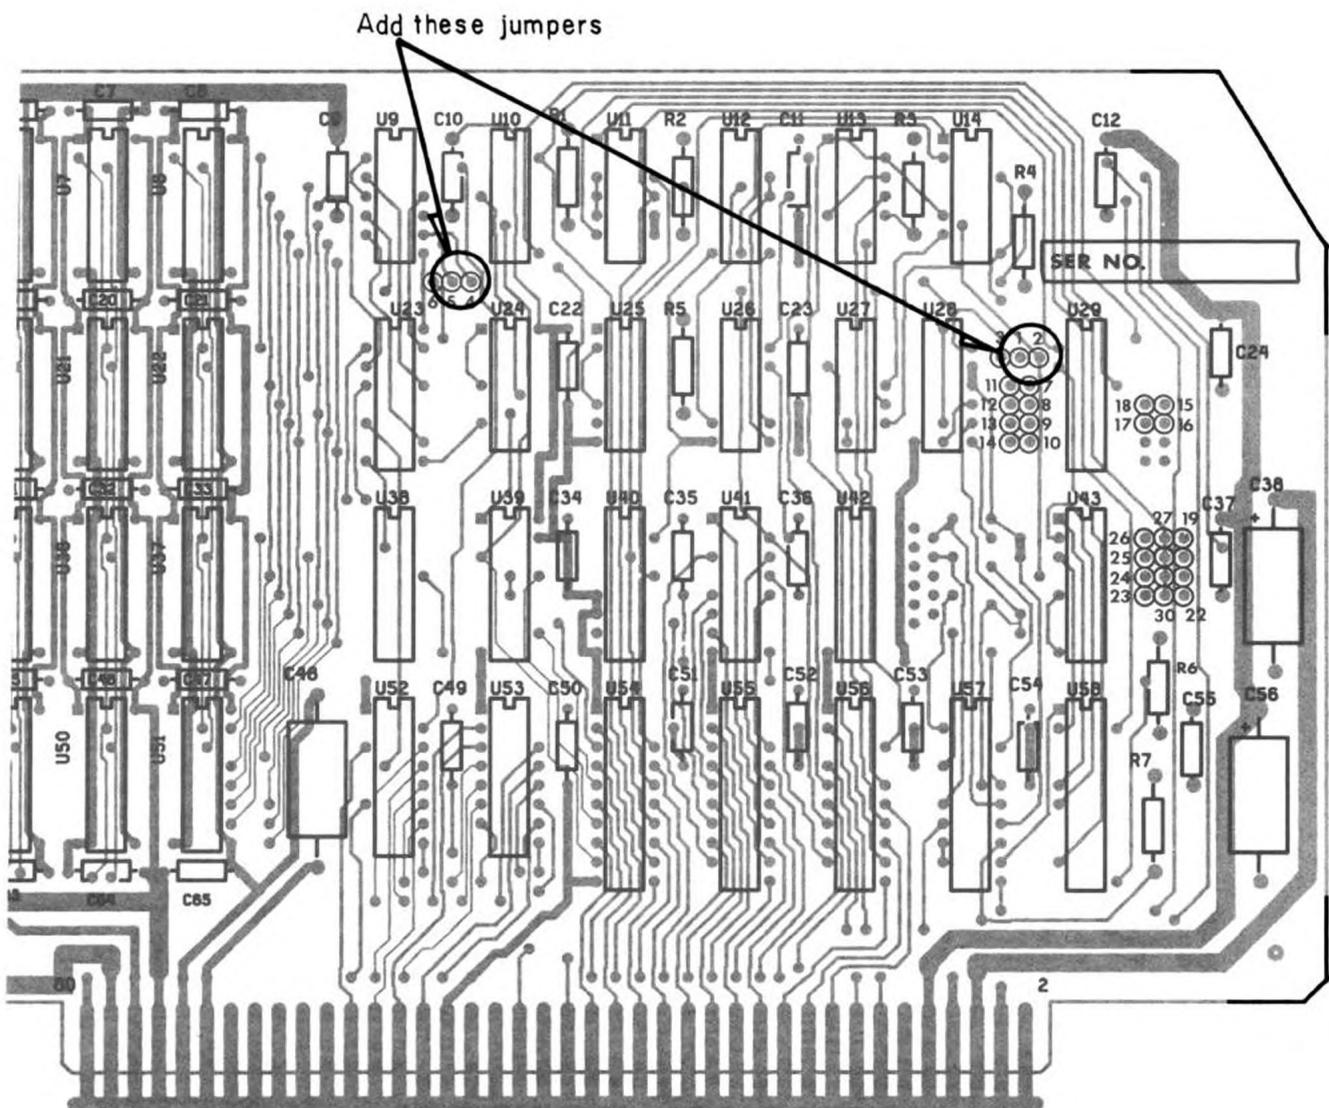
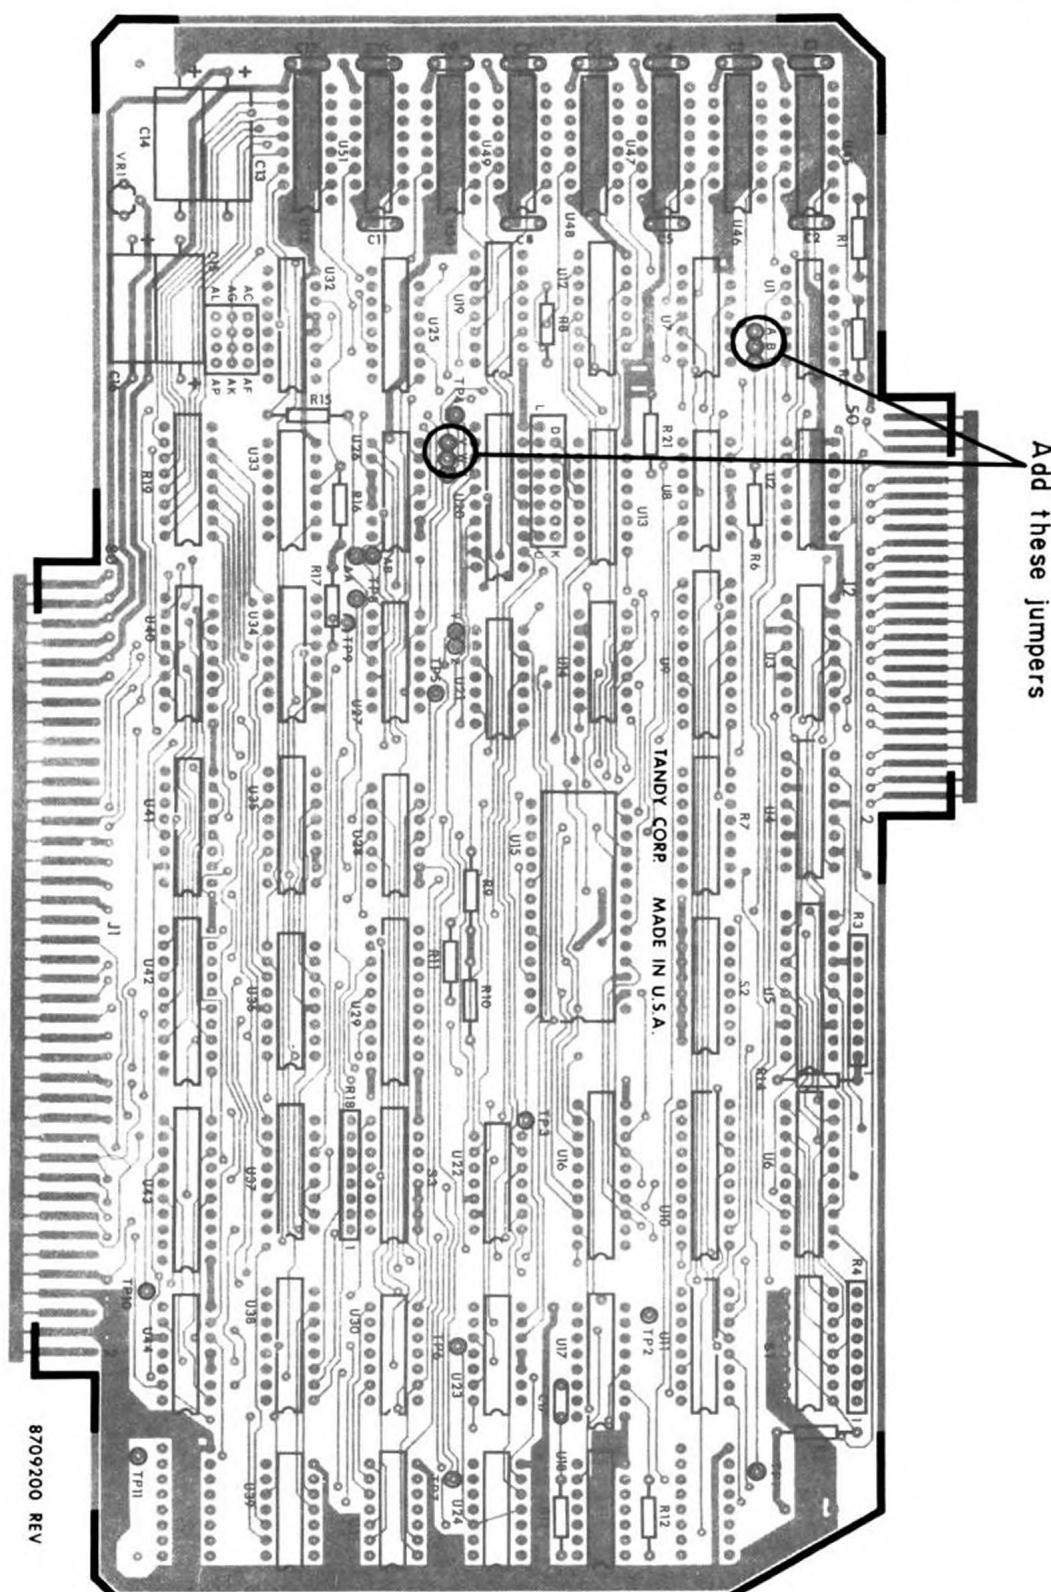

Figure 1
Figure 2
**DISCUSSION:** Pullups are needed on memory boards for inputs to gates. Intermittent problems can occur without these pullups installed. Some of the Model II memory boards may be missing staking pins for push on connectors and appropriate markings. In this case, use wirewrap to jumper the pads and refer to Figure 1 for pad locations.
**PROCEDURE:** Check boards for proper jumpering and install jumpers if they are missing. For physical locations of jumpering positions refer to Figure 1 for the memory board and Figure 2 for the Interface board.